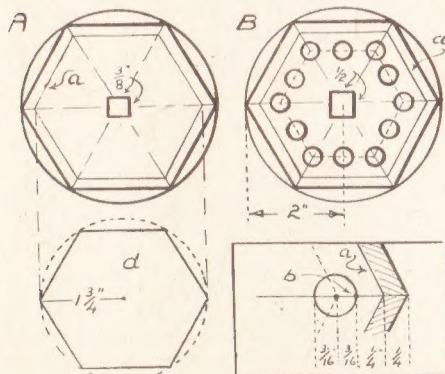

Fig. 2—How to make the shapes
The six-sided shapes are then scribed out, the one as (A) and the other as (B), Fig. 2. On both shapes lightly mark in the radii from the six points to the centres and put in the line (a) which is a $\frac{1}{8}$ in. from the points, along the radii, that is a shade less from the outside edges.